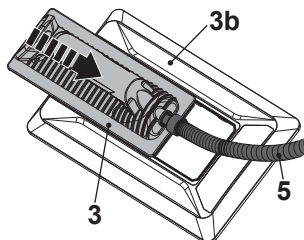

Fig. 5
- > Slide the steam plate (3) back into the track of steam plate apron (3b). Ensure the hose (5) is not squeezed by the steam plate apron (3b) (Fig. 5).